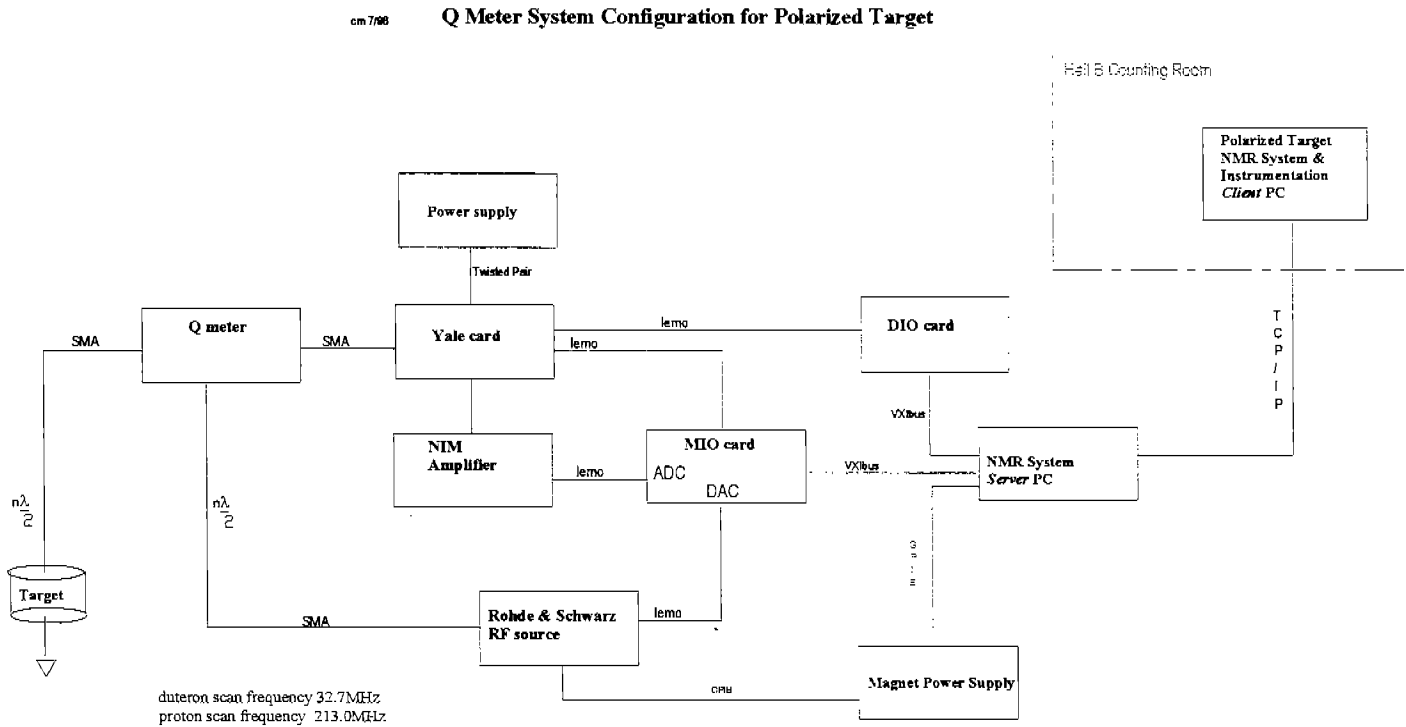

Figure 2 Layout of the Q meter system.
Figure 2 illustrates the configuration of the Q-meter system. Starting with the PC housed in a VXI crate and going clockwise the following connections are made: the VXI PC is connected to a Multiple Input Output module (MIO) via the VXI bus. A Digital to Analog Converter (DAC) housed on the MIO module connects to the external input of the radio frequency (RF) generator. The output of the RF generator is connected to the RF input of a Q-meter. One of the target coils is connected to the scan output of the Q-meter. A Yale card which performs the DC offset subtraction, is attached to the Q-meter's signal output. The signal output is then connected to the input of an amplifier housed in a NIM crate. The output of the amplifier connects to an Analog to Digital Converter (ADC) housed on the MIO card. The output of the ADC connects to the DIO card which is connected to the PC via the VXI bus. The PC is also connected to the Client PC via TCP/IP.